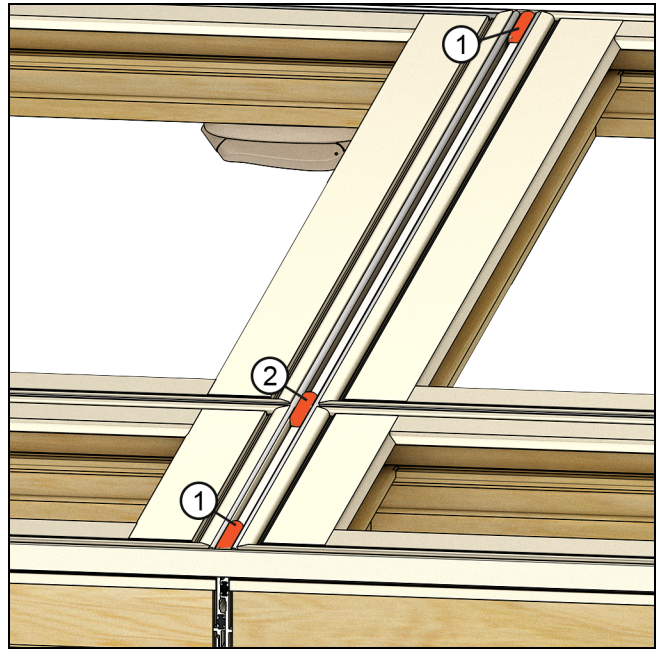
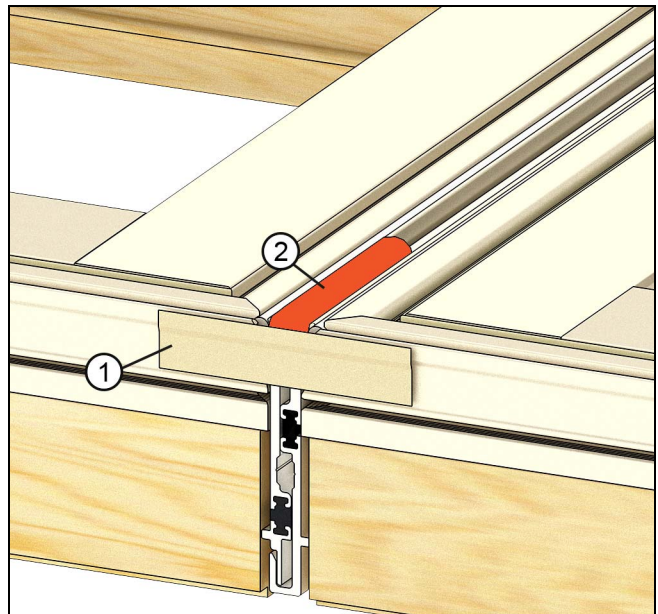

Figure 37 Narrow frame with A148 shown
Figure 38 Narrow frame without A148 shown.
3. Apply a large bead of clear sealant 2-3" long on each end of the mull on top of the backer rod (full frame) or mull reinforcement (narrow frame) and at any intersections along both edges of the mull. See Figure 37. For assemblies that do not use the A148 frame trim (such as those with casing) apply a piece of tape across the mull to keep the sealant in place. See Figure 38.